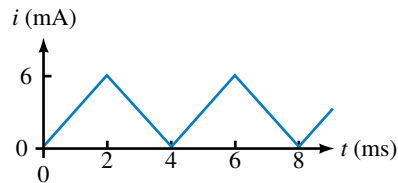

FIGURE 13–14
2. If the current of Figure 13–12 is applied to an unknown inductance and the voltage from 1 ms to 2 ms is 28 volts, what is L ?